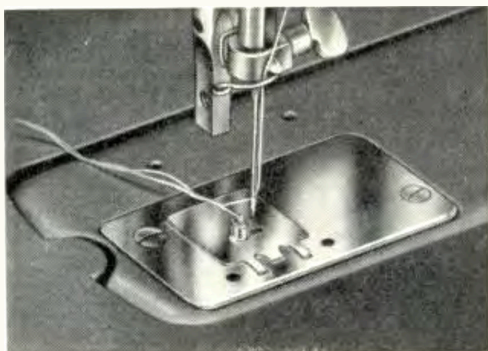

Fig. 44.
- b. Select the eyelet embroidery cover plate with the centre stud matching the desired size of eyelet (1/8 in., 3/16 in. or 7/32 in. diameter, Fig. 44) and place it on the needle plate.